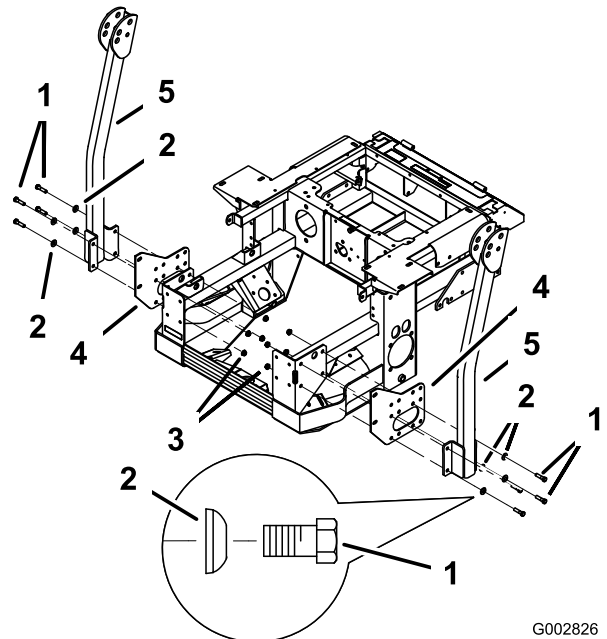

Figure 8
2. Remove the bolts, nuts, and washers holding the roll bar to one side of the machine. Discard the nuts, bolts, and washers (Figure 8).
3. Install the bagger side plate and the roll bar section to the side of the machine using 4 bolts (3/8 x 1-1/2 inches), 4 curved washers (3/8 inch), and 4 flange nuts (3/8 inch) (Figure 8).
5. Repeat the steps above for the opposite side (Figure 8).
Note: Make sure the curved washer are installed as shown in Figure 8.